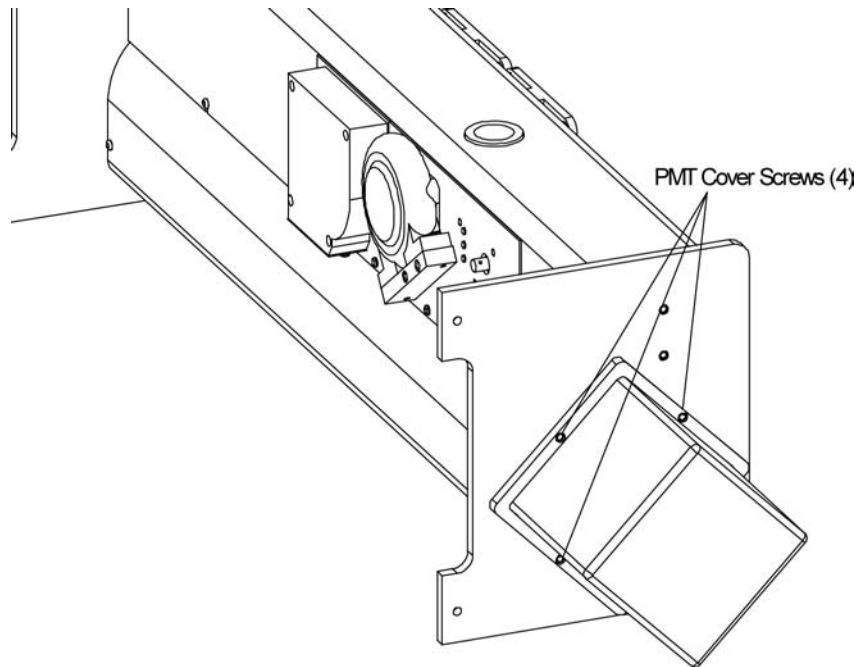

Figure 8-43
2. Remove the PMT cover by unscrewing the four screws attaching the cover to the sensor (Figure 8-43).